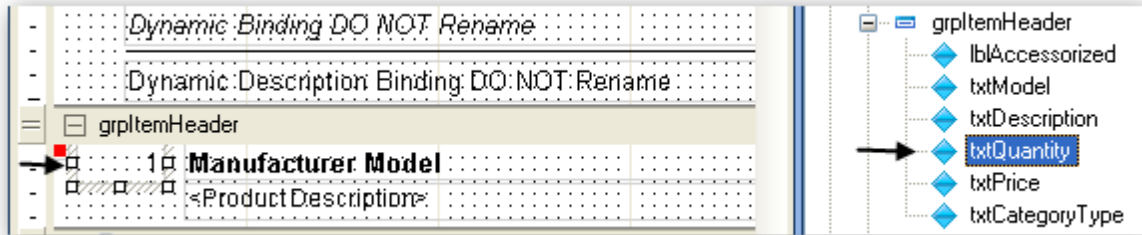

Figure 42
- Selecting an Item name in the “Report Explorer Window” will select that item on the Report Designer Canvas. This is helpful when a user is having a hard time locating a specific control on the canvas (sub reports are an excellent example of this), but knows its name and the section in which it exists (Figure 42). In the image below, the when the control name is selected in the Report Explorer (Right), the control is selected in designer (Left).